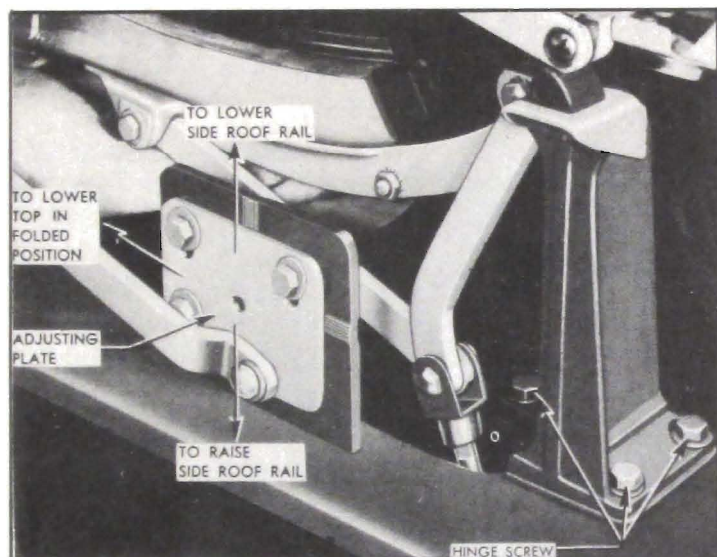

Figure 13-57—Top Adjusting Plate and Top Bow Hinge in Rear Quarter
3. Loosen the three attaching bolts at top adjusting plate in rear quarter on side to be adjusted. See figure 13-57. Move adjusting plate straight downward to raise the roof side rail, or move plate straight upward to lower roof rail, then tighten bolts. **CAUTION:** Do not move adjusting plate forward or rearward since the folded position of top will be affected.
See figure 13-57. **CAUTION:** Do not move plate vertically because this will affect the position of top roof side rail in relation to top of door and rear quarter windows.